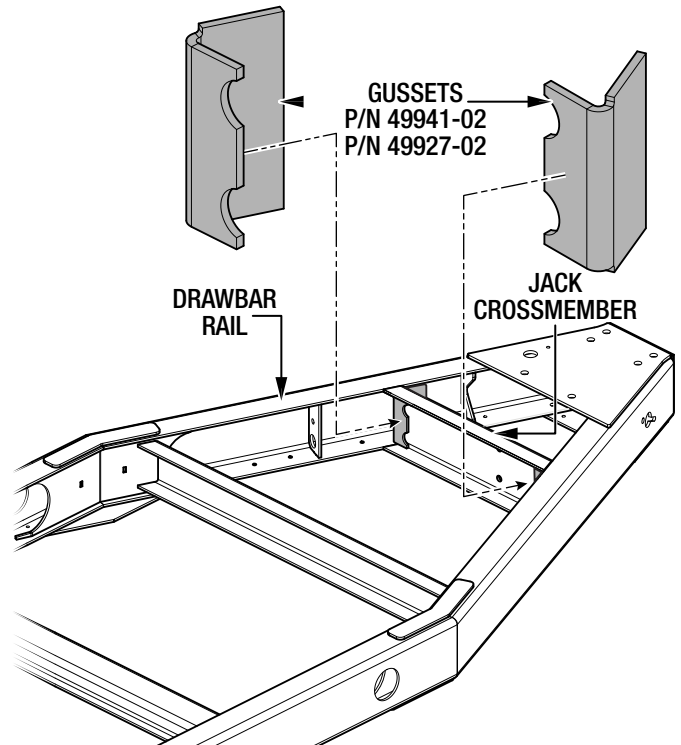

Figure 4. Gusset Placement
1. Place the gusset (P/N 49941-02 or P/N 49927-02) between the jack crossmember and drawbar rail as shown in Figure 4.